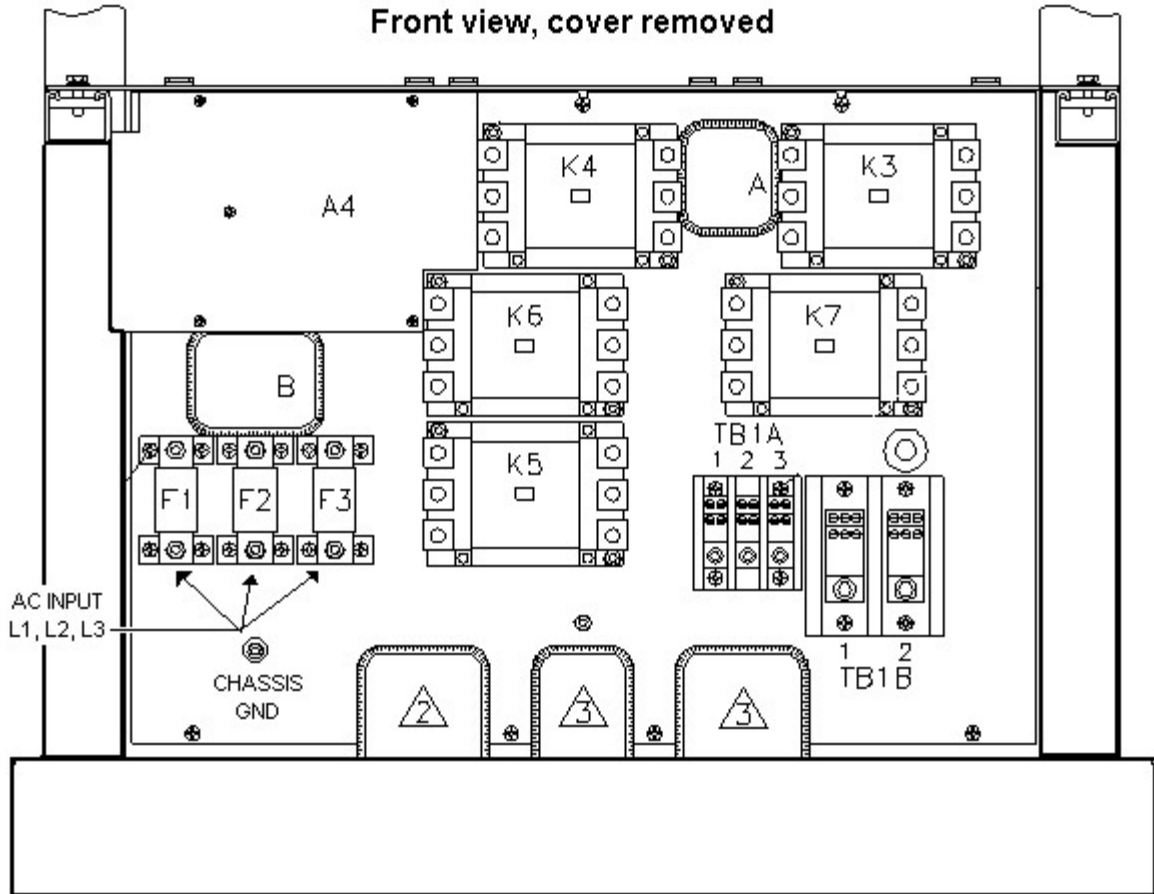

Figure 3-2: Location of AC Input Fuse Block and Chassis Ground Connection - Front View, Access Panel Removed
**CAUTION:** *Always disconnect any input power completely when removing any protective cover and allow the internal capacitors to fully discharge (minimum of 15 mins) before removing any cover.) See Figure 3-2 for details.*
It is important to understand the purpose and operation of the On/Off circuit breaker of the MX Series located on the lower left side of the front panel. This is a 2A rated breaker that is used to engage and protect the LV Power supply of the MX chassis only. The LV Power supply provides DC bias power to the entire MX system. The AC input power is routed through a set of three AC line fuses (F1, F2 and F3) located in the lower left bottom corner of the MX. (See Figure 3-2 for fuse locations). These fuses protect the three MX amplifiers and the AC input transformer from excessive input currents. The AC input power is connected to the input transformer through a large three-pole contactor. Removing AC power to the LV Power Supply by opening the front panel circuit breaker (moving the lever to the down (OFF) position) will cause this contactor to lose its coil voltage and will result in it opening and disconnecting the input transformer and amplifier from AC mains input.
The output terminal blocks, TB1A and TB1B are located at the front of the unit behind the bottom access panel. See Figure 3-2 for details.